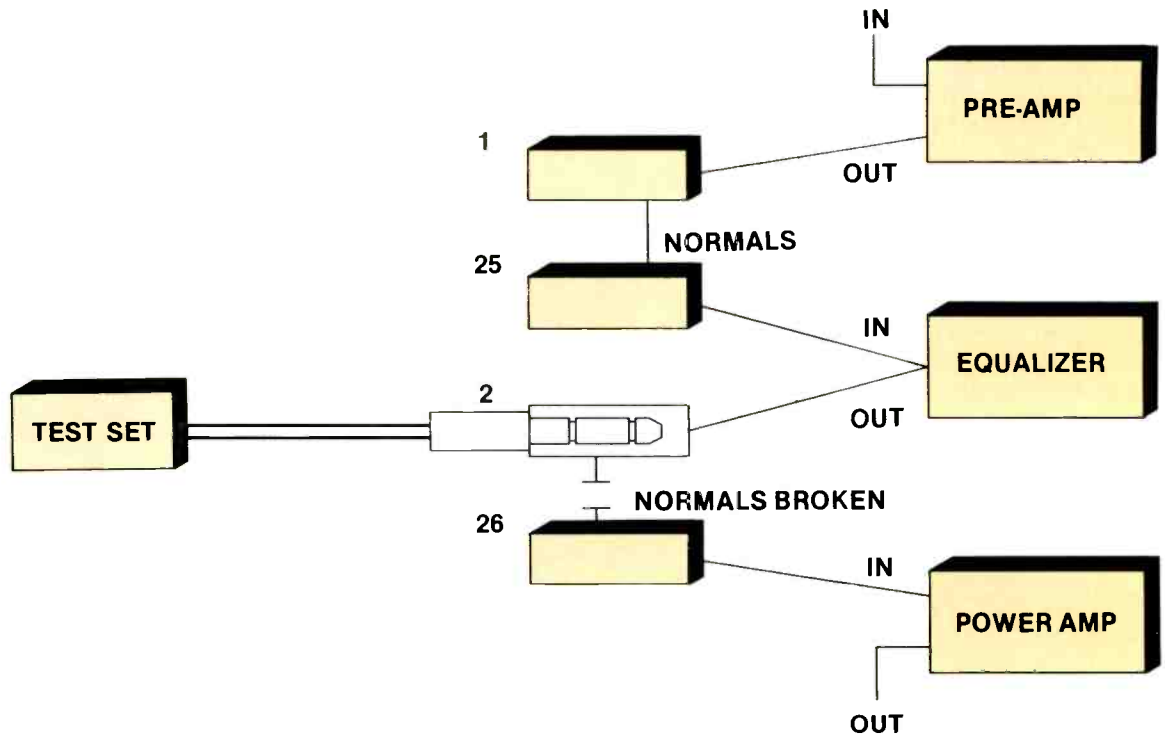

Figure 7. The typical application of a patchbay with normal jacks used to test a circuit.
- troubleshooting and measurements (see Figure 7);